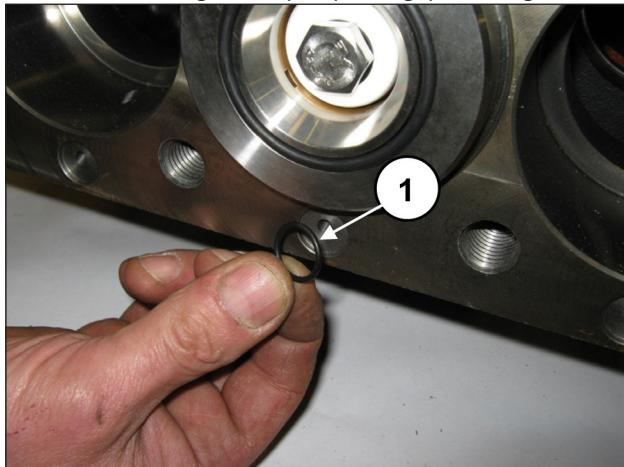

Fig. 130
Fit the 6 front O-rings in the pump casing (pos. ①, Fig. 130).